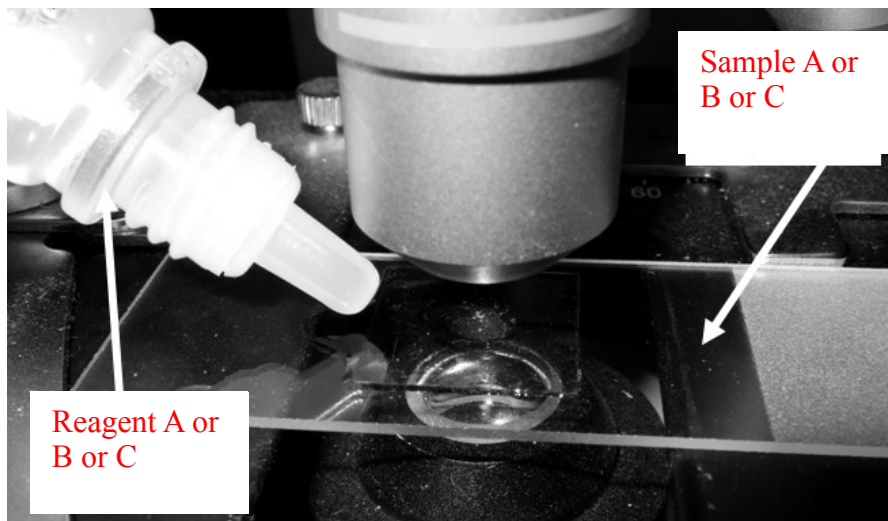

Figure II-3
4. Add one drop of reagent A from one side of the cover slip into the sample A as shown in Figure II-3.